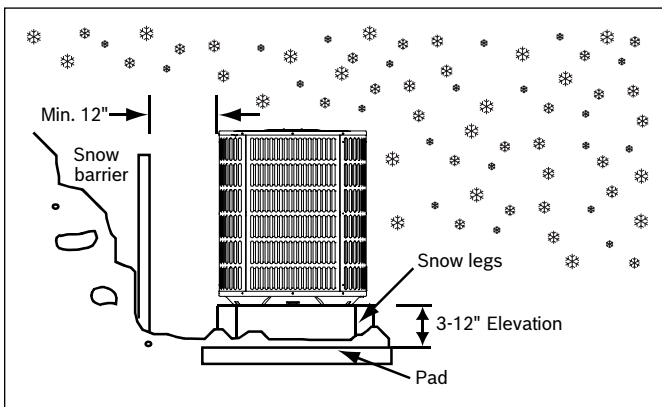

Figure 7
- Units should be elevated 3-12 inches above the pad or rooftop, depending on local weather. This additional height will allow drainage of snow and ice melted during defrost cycle prior to its refreezing. Ensure that drain holes in unit base pan are not obstructed, which could prevent the drainage of defrost water (Fig. 7).